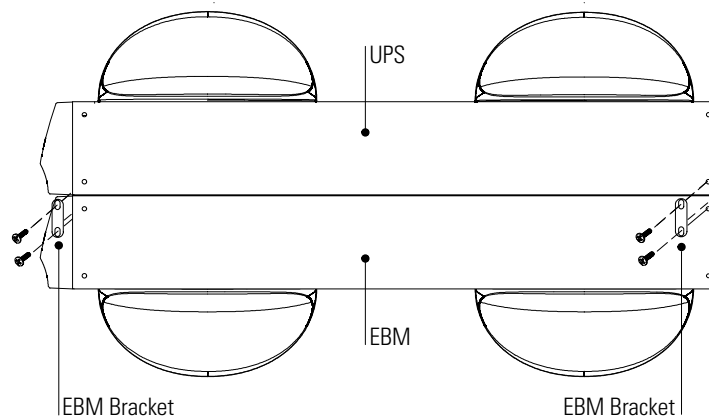

Figure 10. Installing the EBM Brackets (Top View with Pedestals)
9. Align each EBM bracket with the adjacent corner screw holes and secure with the supplied screws (see Figure 10).